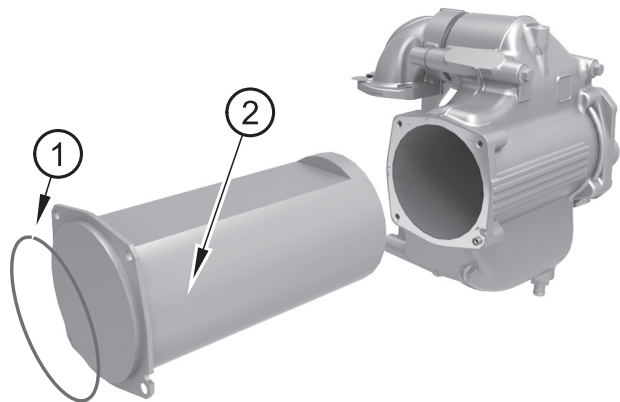

Figure 25
1. Remove O ring seal (figure 25 item 1) and tubestack (item 2).